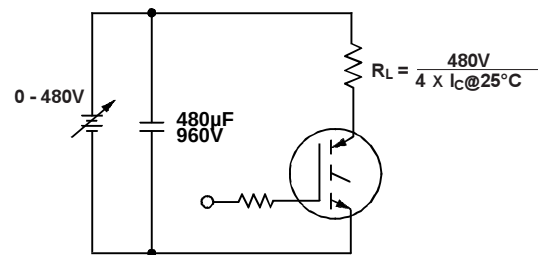

Fig. 13b - Pulsed Collector Current Test Circuit
- ① Repetitive rating; $V_{GE} = 20V$, pulse width limited by max. junction temperature. (See fig. 13b)
- ② $V_{CC} = 80\%(V_{CES}), V_{GE} = 20V, L = 10\mu H, R_G = 5.0\Omega$
- ③ Repetitive rating; pulse width limited by maximum junction temperature.
- ④ Pulse width $\leq 80\mu s$; duty factor $\leq 0.1\%$.
- ⑤ Pulse width $5.0\mu s$, single shot.